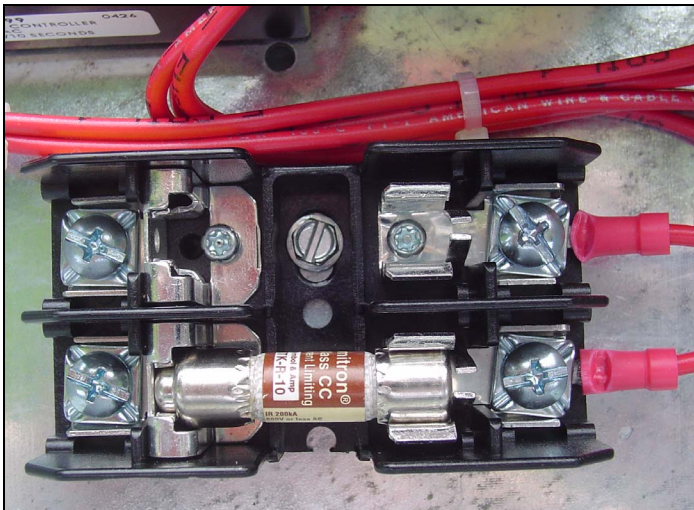

Figure 32. Remove the Fuses to Access the Mounting Screws.
Step 3: Remove the Utility sensing fuses from the fuse block to gain access to the fuse block mounting screws (see Figure 32).
Step 4: Remove the two (2) screws securing the utility sensing fuse block to the base plate using a blade screwdriver or 0.25 in. nut driver (see Figure 32).